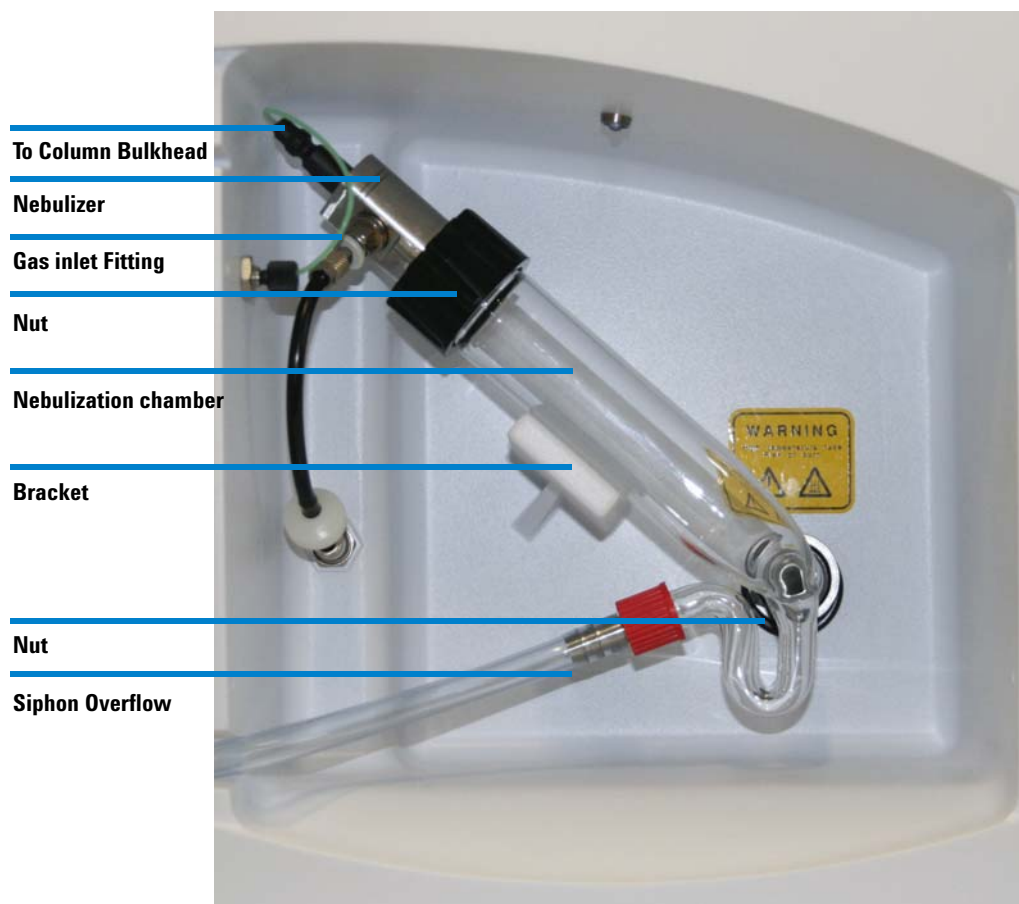

Figure 11 Installing the nebulizer/nebulization chamber assembly
The installed Nebulizer/Nebulization chamber assembly is shown in Figure 11.
- 2 Position the nebulization chamber as shown in Figure 11 and tighten the black nut at the bottom. The nebulization chamber is in the correct position, if it is in contact with the back wall as shown in Figure 12.
Attach the nebulization gas tube coming out of the front panel to the nebulizer gas inlet fitting located on the nebulizer side as shown in Figure 11.
- 1 Attach the nebulization gas tube coming out of the front panel to the nebulizer gas inlet fitting located on the nebulizer side as shown in Figure 11.